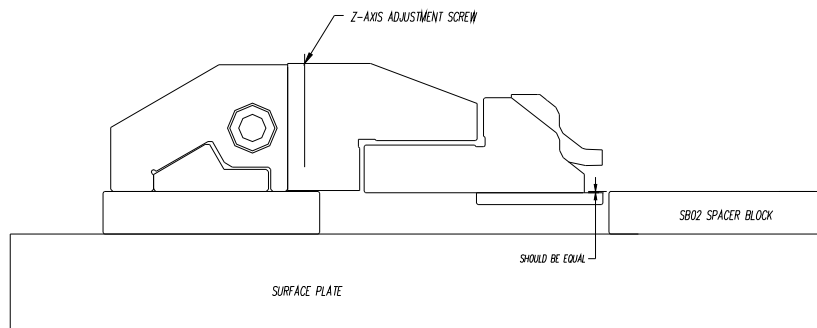

Figure 17
STEP 33. Place the SB02 on the surface plate positioned next to the bottom plate of the vertical vise as shown in Fig. 17.